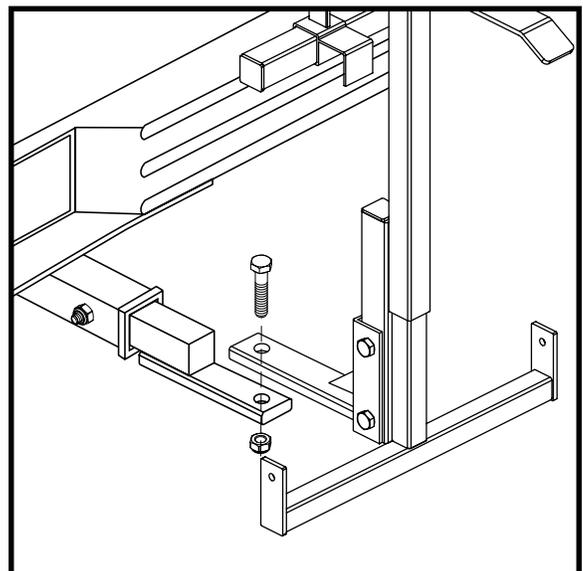

Figure 2. Lift Frame Vehicle Mounting (Class 1 Hitch Bracket Shown)
2. If your vehicle is equipped with a Class 1 hitch receiver, slide the hitch bracket over the hitch receiver, aligning the mounting holes. Secure the hitch bracket to the hitch receiver with the supplied hardware. See figure 2.